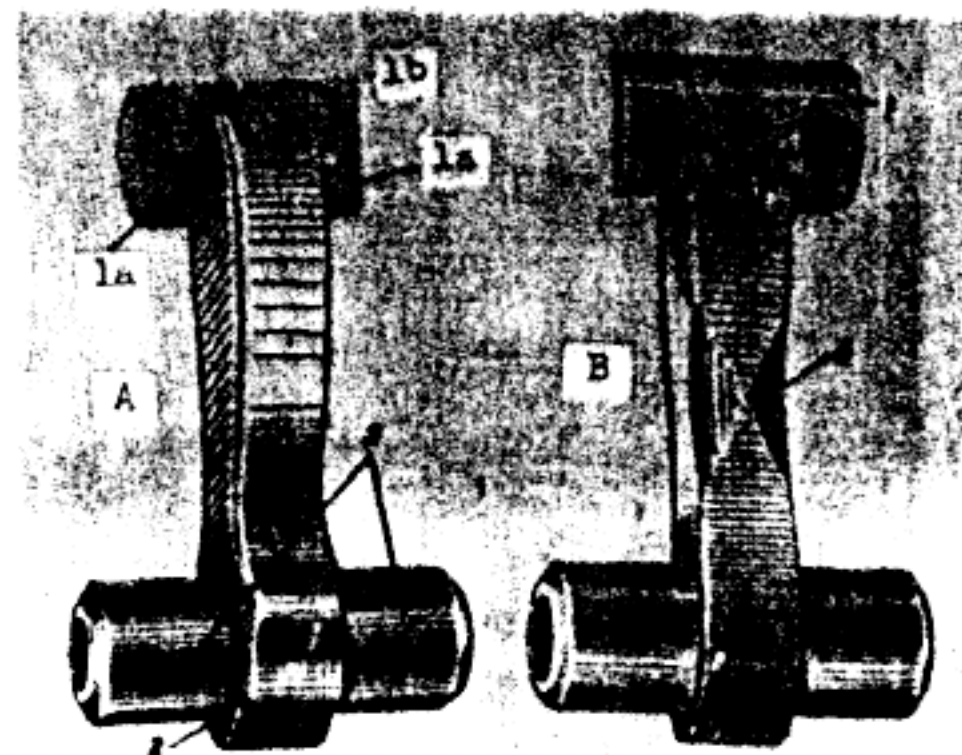

Figure 33. Hammer (0-2).
The hammer (fig. 33) serves to strike the firing pin; it has a head (1) the flat portions (1a and 1b) of which serve as the cock notch (1a) and disconnecter notch (1b). The head is rounded in the lower portion to obtain smooth action on the sear and on the disconnecter.